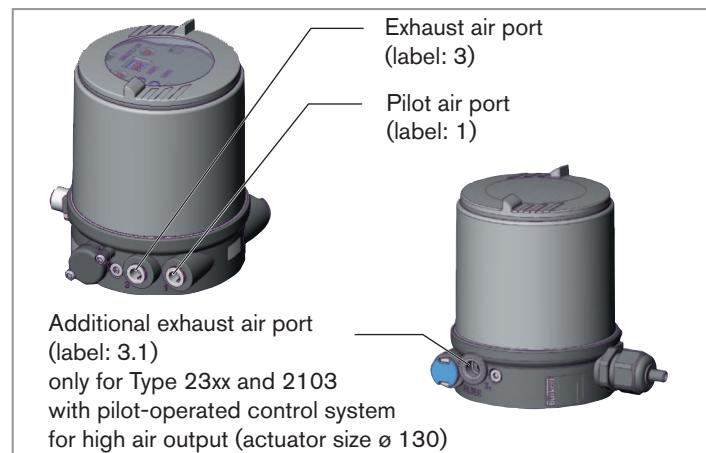

Fig. 8: Pneumatic Connection
- Connect the control medium to the pilot air port (1) (3 – 7 bar; instrument air, free of oil, water and dust).
- Attach the exhaust air line or a silencer to the exhaust air port (3) and, if available to the exhaust air port (3.1) (see "Fig. 8").